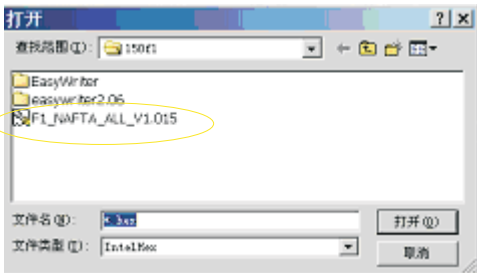

Fig. 6
- 1. Press the load hex then select the .hex code as shown in Fig.6